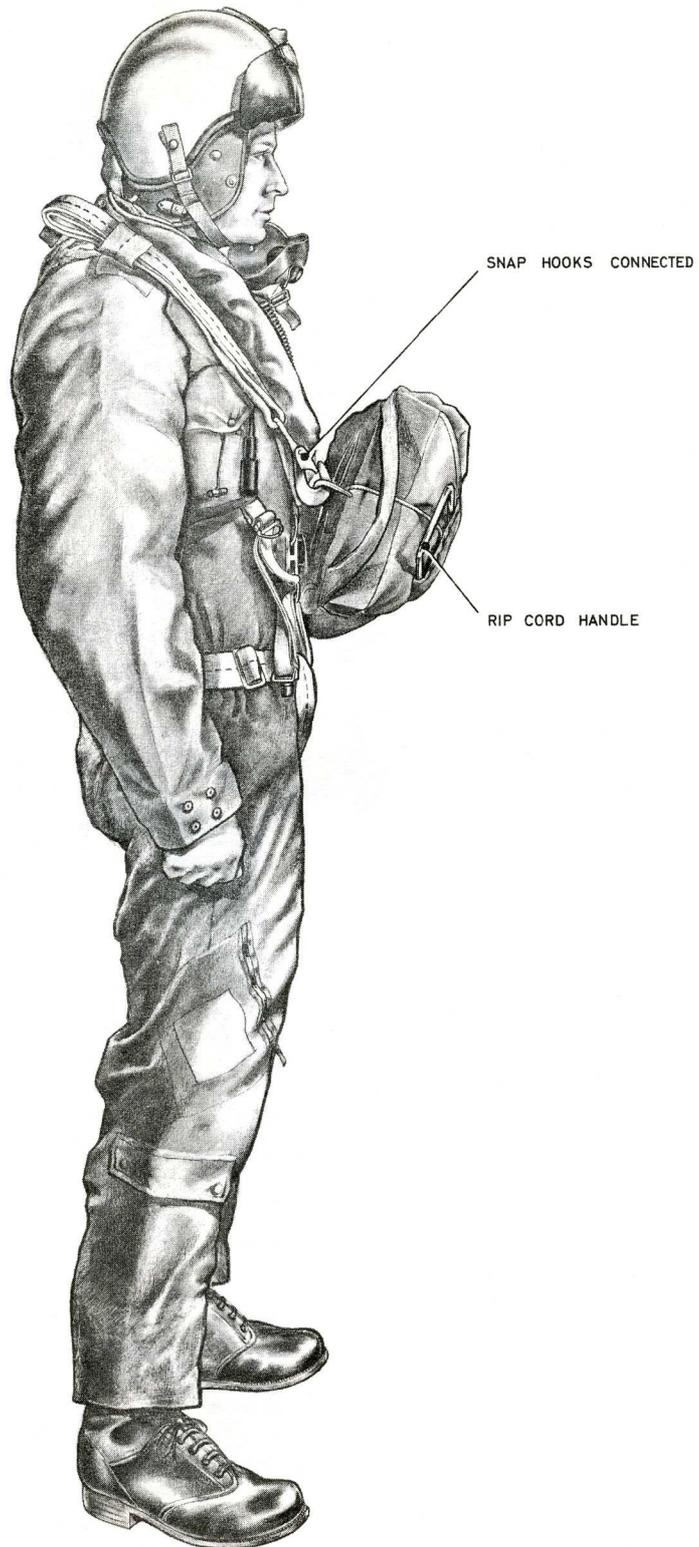

Fig. 2. Fitting assembly 'A': stage 2
6. The equipment is fitted in two stages, Stage 1 (*fig. 1*) is the fitting of the parachute harness and stage 2 (*fig. 2*) is the attachment of the parachute pack. The crew member is shown wearing a Type G flying helmet and a Mk. 1A protective helmet and visor; when using the boom microphone (*shown inset in fig. 1*) goggles are used instead of the helmets and oxygen mask.